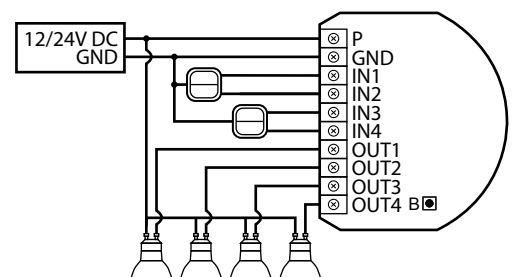

Figure 4: Connection with halogen lights
2. Connect in accordance with Figure 4.